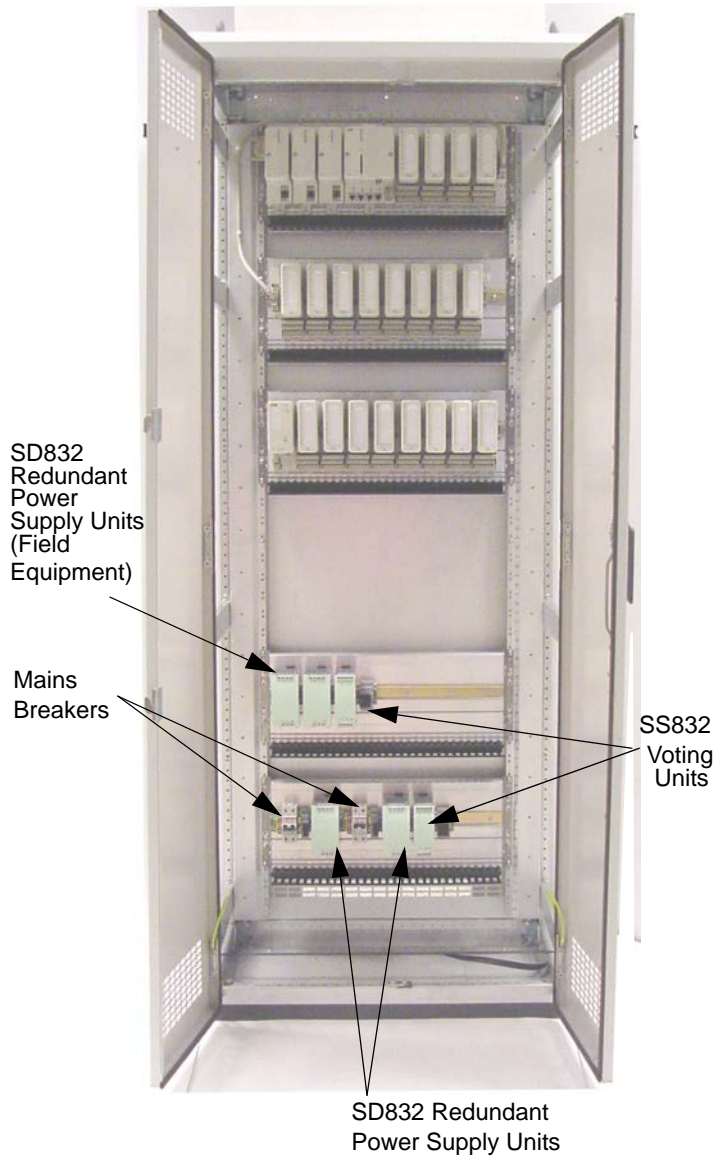

Figure 2.42: Floor Mounted Cabinet (Horizontal Unit Arrangement)
- Figure 2.42 on page 143: Floor Mounted Cabinet – Unit Arrangement (Redundant PSU)